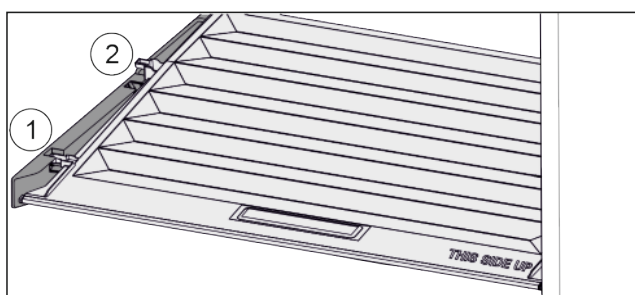

Fig. 33
- ▶ Pull the lid up at the front in the retaining parts to the opening Fig. 33 (1).
- ▶ Lift from the back and pull it up and out Fig. 33 (2).